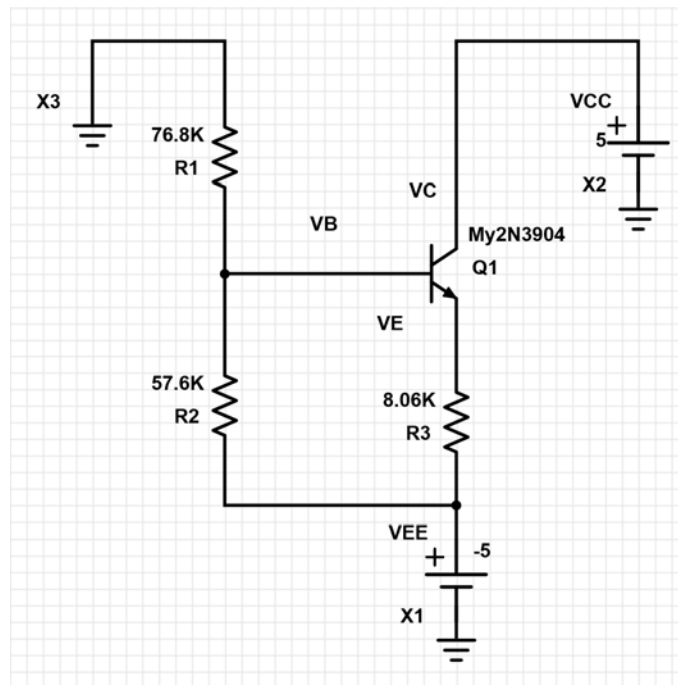
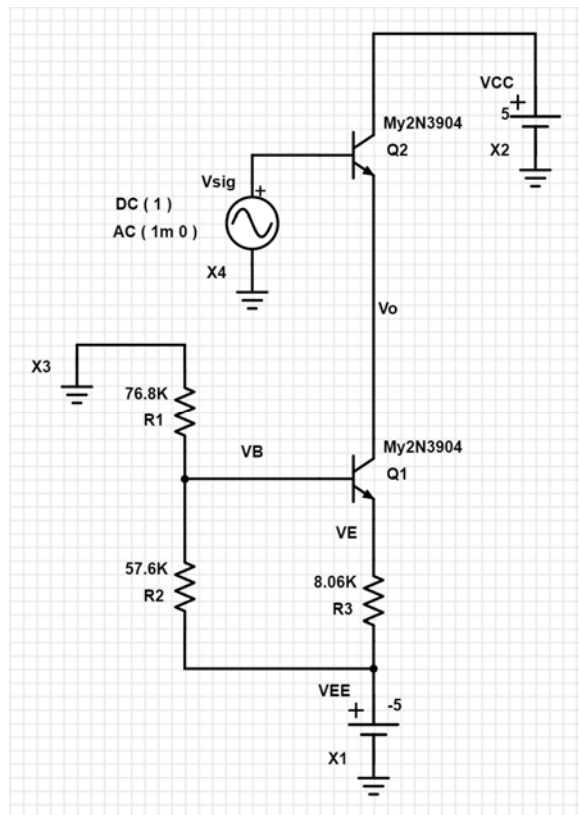
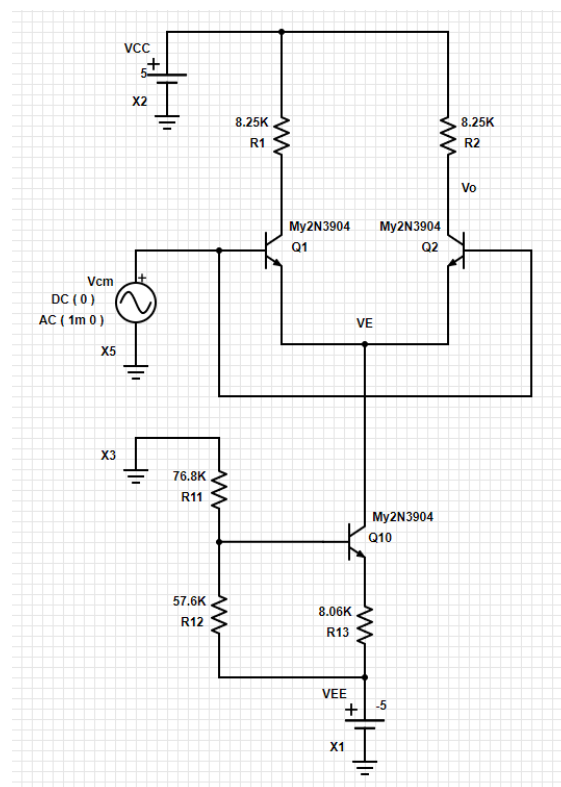

Fig. 1 The schematic diagram for the constant current sink
Fig. 4 Schematic diagram of the common-collector (CC) amplifier
Fig. 5 Schematic diagram of the differential amplifier for common-mode analysis
- 1.1 To characterize the output resistance of a current sink, construct the current sink in PartSim with resistance values and supply voltages, as shown in Fig. 1.
that we characterized in Fig. 1. Here V_{sig} provides the required DC bias for Q_2 and the AC signal applied to the CE amplifier.
- 1.9 Based on Fig. 1, construct the measurement setup for the constant current sink. Use Wavegen 1 (W1) for VCC and V- for VEE. Connect Scope Ch. 1 Positive (1+) to V_B (the base of Q_1) and Scope Ch. 2 Positive (2+) to V_E (the emitter of Q_1). Connect GNDV+, GNDV-, Scope Ch. 1 Negative (1-), and Scope Ch. 2 Negative (2-) to a common ground
- 2.1 Construct the CC amplifier, as shown in Fig. 4, using an NPN-BJT 2N3904 and the current sink characterized in Fig. 1. Here V_{sig} provides the required DC bias for Q_2 and the AC signal for the CC amplifier.
- 2.4 Based on Fig. 4, construct the measurement setup for the common-collector (CC) amplifier. Use V+ for V_{CC} , V- for V_{EE} , and Wavegen 1 (W1) for V_{sig} . Connect GNDV+, GNDV-, and GNDW1 to a common ground line.
- 3.1 Construct the differential amplifier, as shown in Fig. 5 using two NPN-BJT 2N3904, two 8.25 k Ω resistors, and the current sink characterized in Fig. 1. We first analyze its characteristics for DC common-mode signal V_{CM} , followed by the AC common-mode signal v_{cm} . Here the source V_{cm} in Fig. 5 provides both V_{CM} and v_{cm} to the differential amplifier.
- 3.7 Based on Fig. 5, construct the measurement setup for the differential amplifier. Use $V^+ = 5\text{V}$ for V_{CC} , $V^- = -5\text{V}$ for V_{EE} , and Wavegen 1 (W1) for V_{cm} . Connect GNDV+, GNDV-, and GNDW1 to a common ground line.